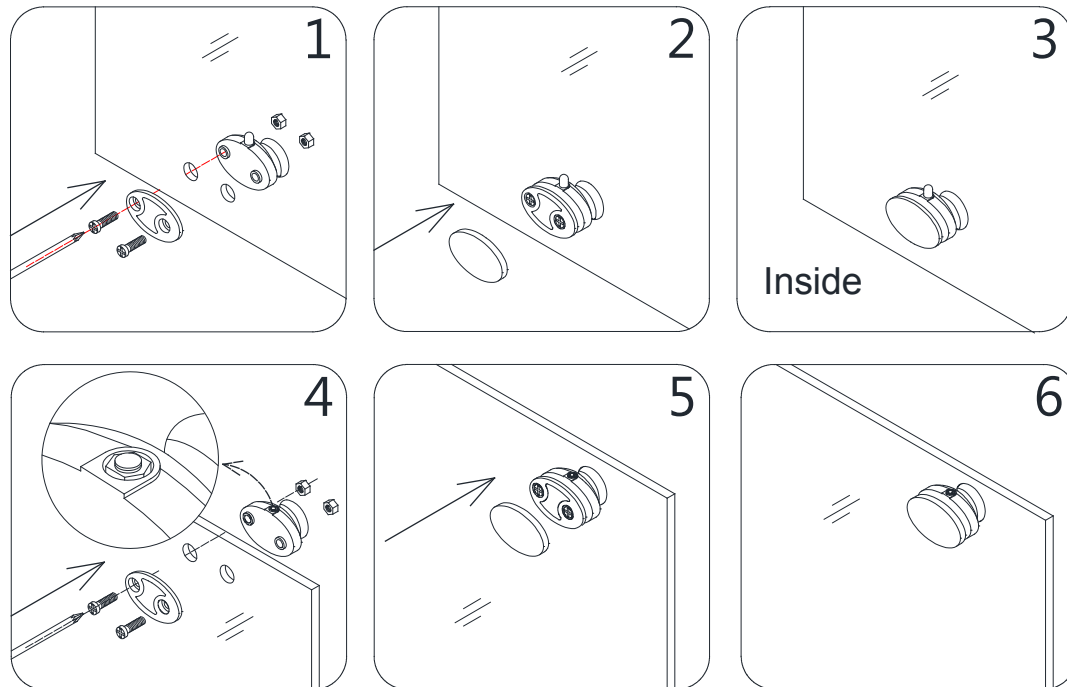

Fig 12
12. Fasten the top and the bottom **Wheel Assemblies (#17)** to the **Door Glass (#04)**. The top wheels can adjust the door level using the adjustable bolt and lock nut. The bottom wheel has a press button to fix the wheel onto the **Bottom Guide Rail (#03)**. **The wheels must face towards the outside of the shower.** Be sure that the handle holes are on the correct side for the installation. **(Fig 12)**